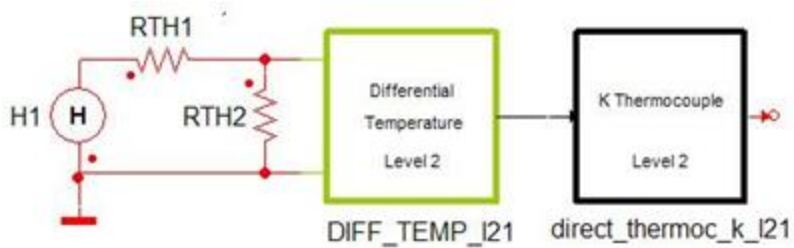

Figure 2. Application example of the Direct Polynomial Thermocouple (K) block
In this example, a heat-flow source H1 is applied to two Thermal Resistors – RTH1 and RTH2. The temperature of RTH2 is measured by a Differential Temperature sensing block DIFF_TEMP_I21, and the measurement result is output through a Direct Polynomial Thermocouple (K) direct_thermoc_k_I21. The schematic of the system is shown in Figure 2, system parameters are listed in Table 3, and the simulation results are shown in Figure 3.